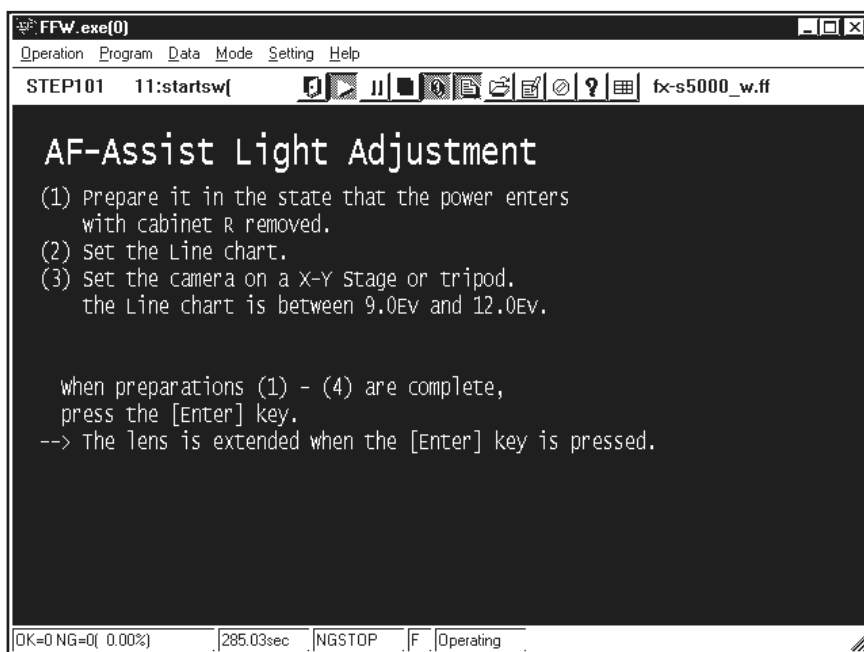

Fig.6
---> The **[AF-Assist light adjustment Preparation Screen (Fig.6)]** appears.